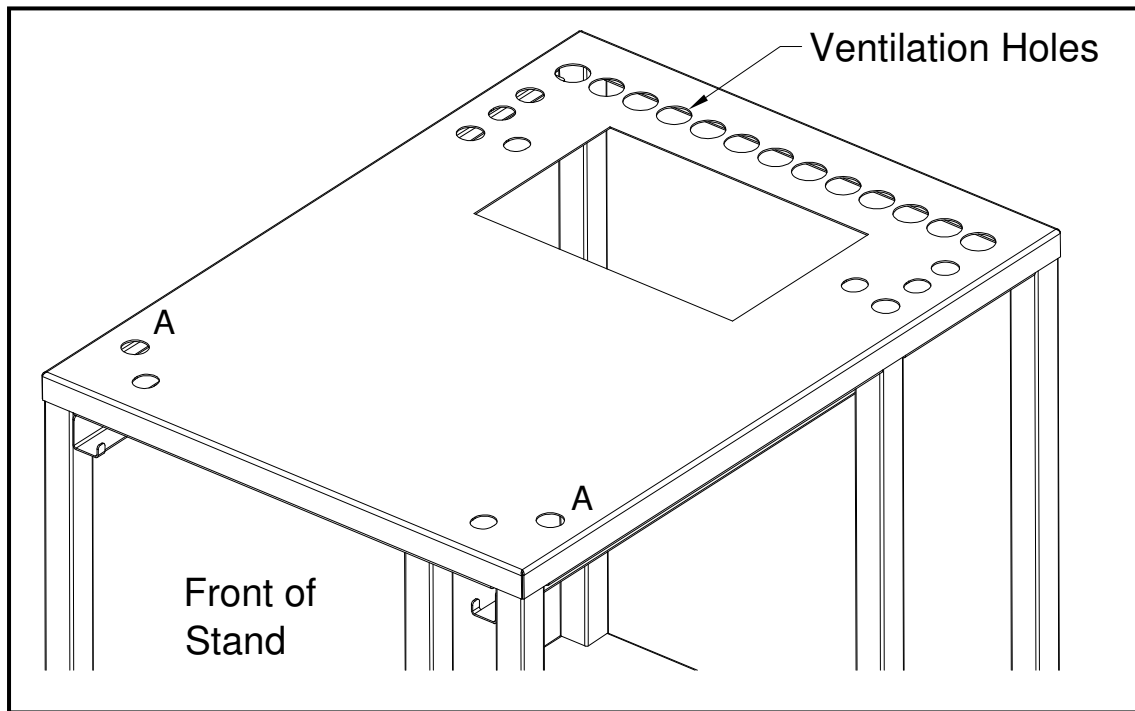
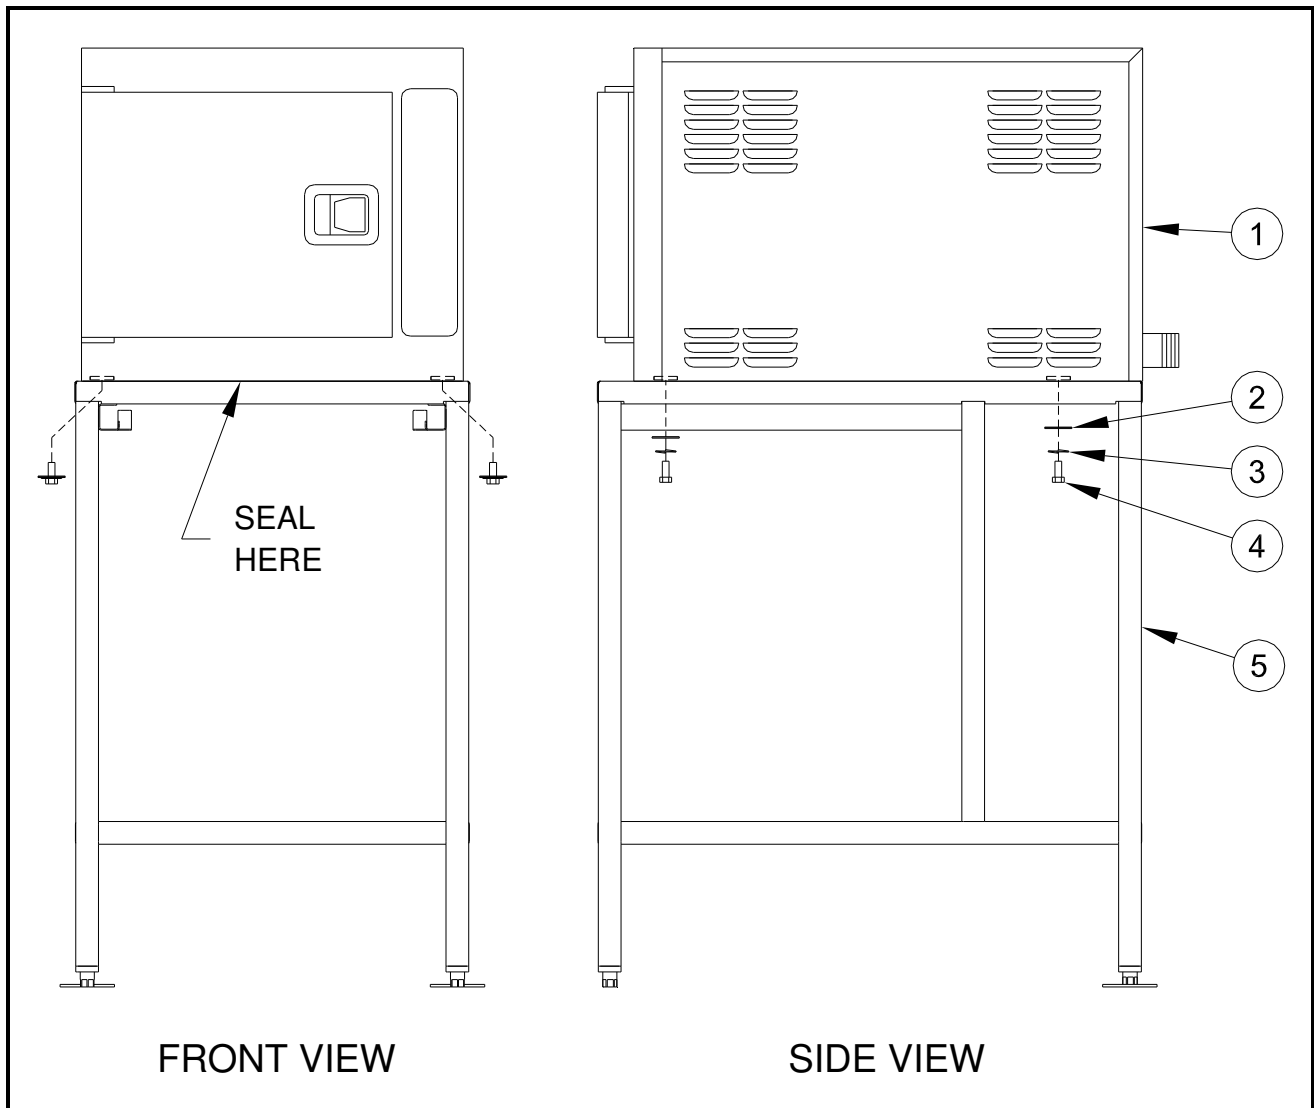

Figure 1
Figure 2
2. Set steamer directly on stand as shown in Figure 2 on the next page (4-inch legs provided with steamer are not used when installing SteamCraft® steamers on a stand). Align steamer so that front mounting bolts will come up through holes marked "A" in Figure 1 below.
NOTE: It is especially important when installing a gas fired steamer that the bottom ventilation holes line up with those in the stand (See Figure 1 below). Be sure that these holes line up before securing gas steamer to stand.
3. Secure steamer to stand using 4 sets of bolts and washers provided as shown in Figure 2 (Items 2, 3 and 4) on the following page.
4. Remove the control "side" side panel and seal any gaps between steamer and stand with a suitable RTV Sealant (not provided) as shown in Figure 2. Suitable RTV sealant is a Food Grade silicone sealant rated at least 250°F and Listed or Classified to the ANSI/NSF 51 or 61 Standards. Replace side panel.